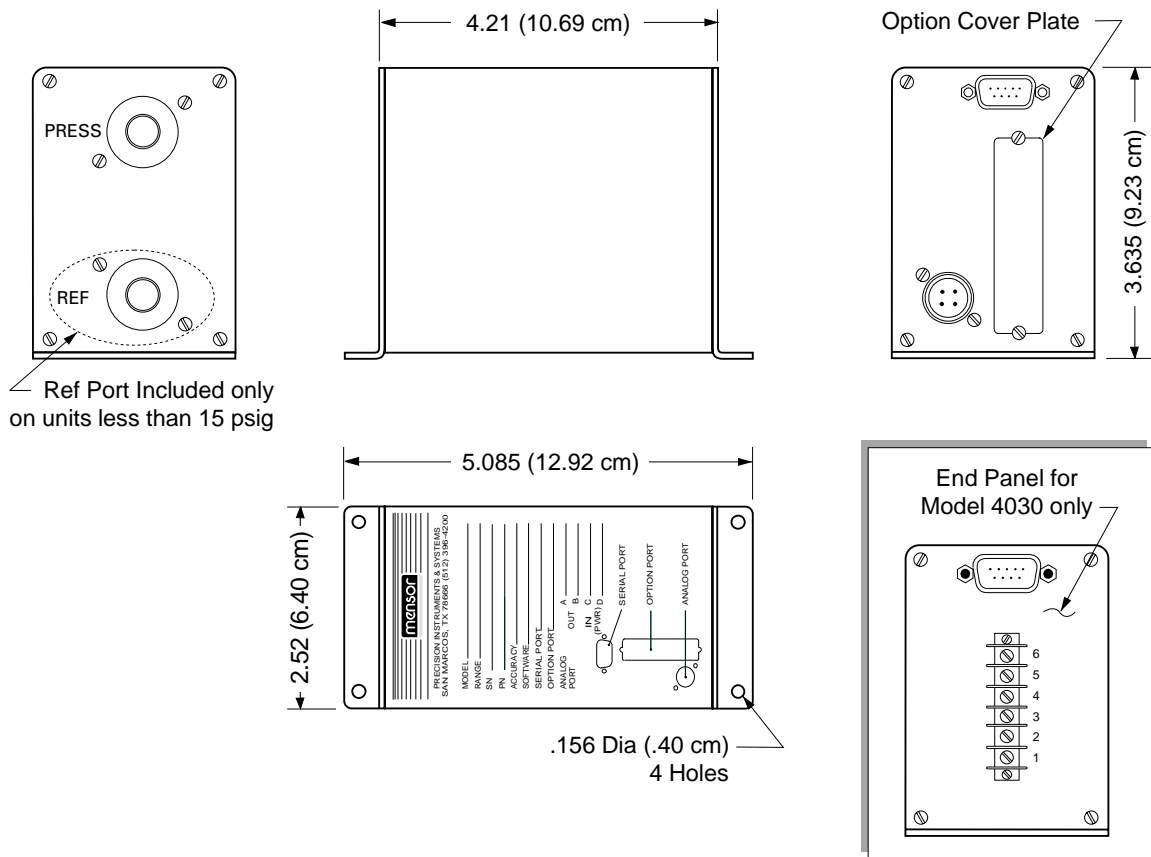
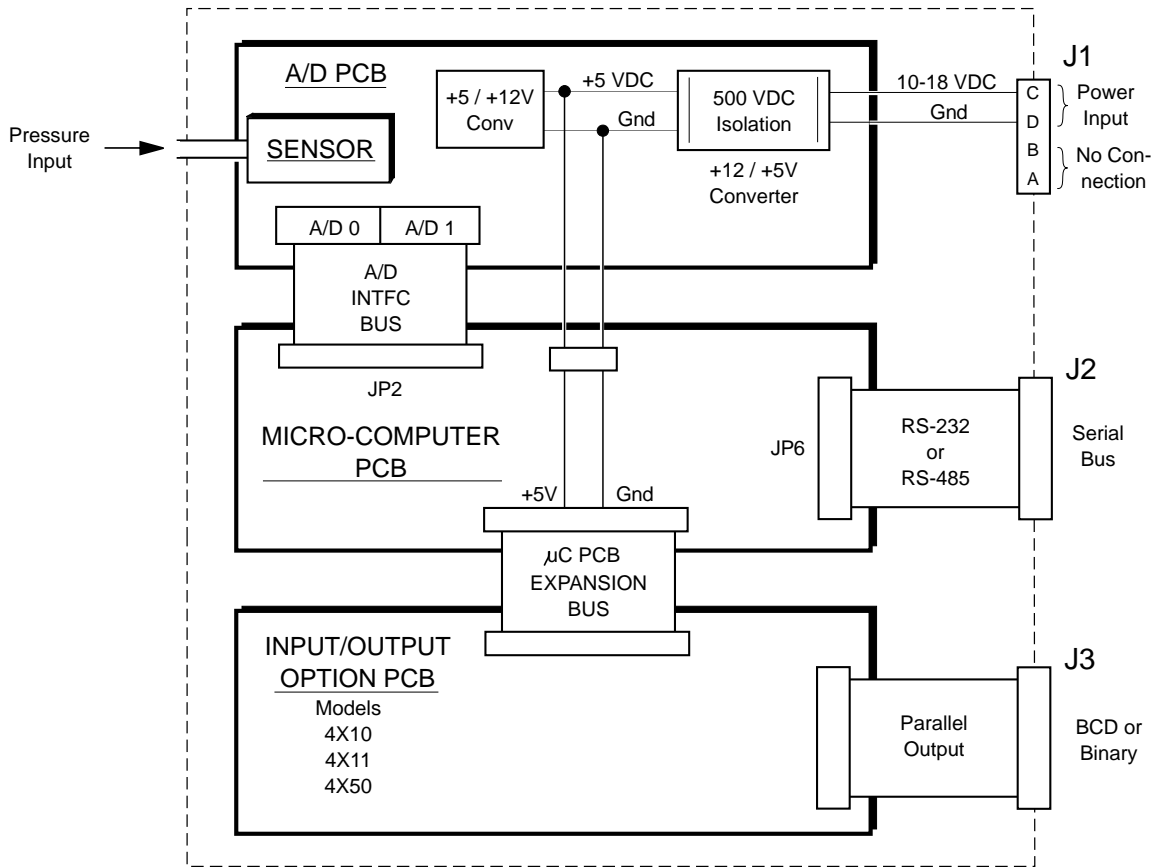

Figure 1.1 - DPT Outline
Figure 1.2 - Block Diagram - Parallel Output
The DPT consists of the sensor and a set of printed circuit boards inside an aluminum housing (see the Block Diagrams, figures 1.2 through 1.4). The outside of the housing supports the pressure input port(s), and the power and signal connectors. A DB-9 connector for a serial port is standard on all DPTs (figure 1.1). This connector is male for a standard RS-232 port (Models 40XX), or female for the optional RS-485 port (Models 41XX), Models 4X10, 4X11 and 4X50 have an additional 36 pin telephone style connector for a parallel port. Model 4030, a Digital Pressure Transmitter with a 4 to 20 mA output, uses a six position barrier strip rather than a power/signal connector (see the inset in figure 1.1). Models 4X40, 4X41, 4X42 and 4X43 provide an analog voltage output and
The optional I/O (input/output) circuit board is a programmable device which is set up to output data in a specific parallel format (see figure 1.2). The I/O circuit board:
- b. Provides the binary output and accessory lines to the external 36 pin connector, J3, mounted on the option cover plate (see figure 1.1).